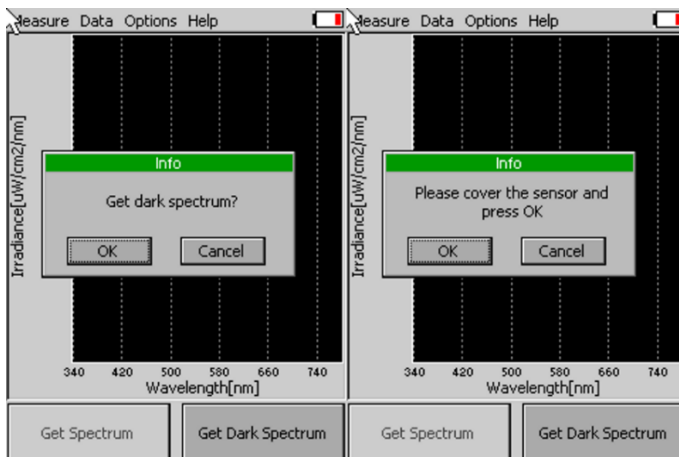

Fig. 3 Dark spectrum calibration - part 1.
- On the opening screen of the device select Get Dark Spectrum >press OK (Fig. 3).